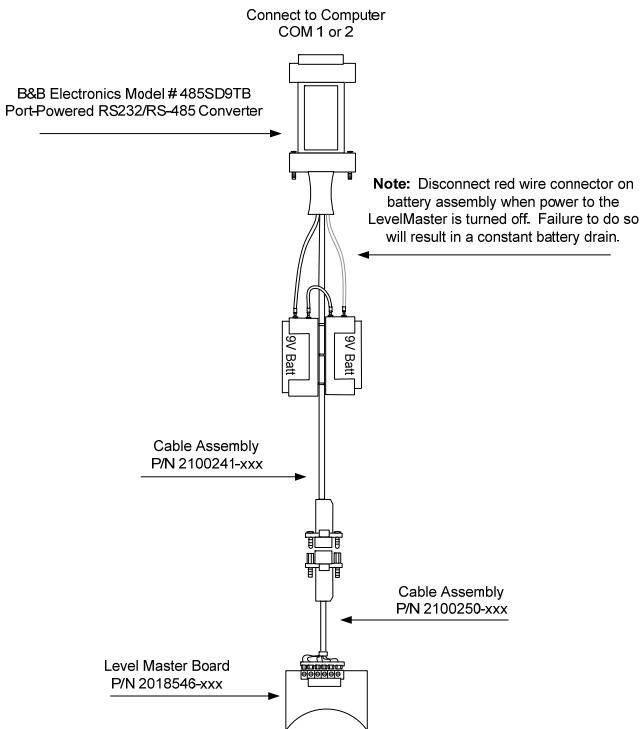

Figure 8. MasterLink Communication Cable
- 2A** Connect the converter cable between the communication ports on the laptop computer and the LevelMaster communication connector (see Figure 8).